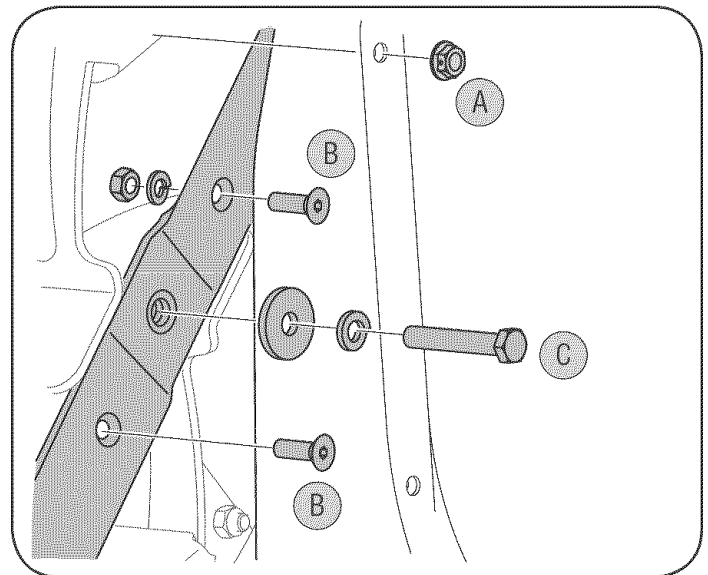

Figure 11
- a. Remove six flange nuts which secure hopper inlet guide to impeller housing. See Figure 11.
- b. Remove the two internal hex screws, hex lock nuts, and lock washers which secure the shredder blade to the impeller. See Figure 11.
- c. Remove the hex bolt, lock washer, and flat washer to completely free shredder blade. See Figure 11.